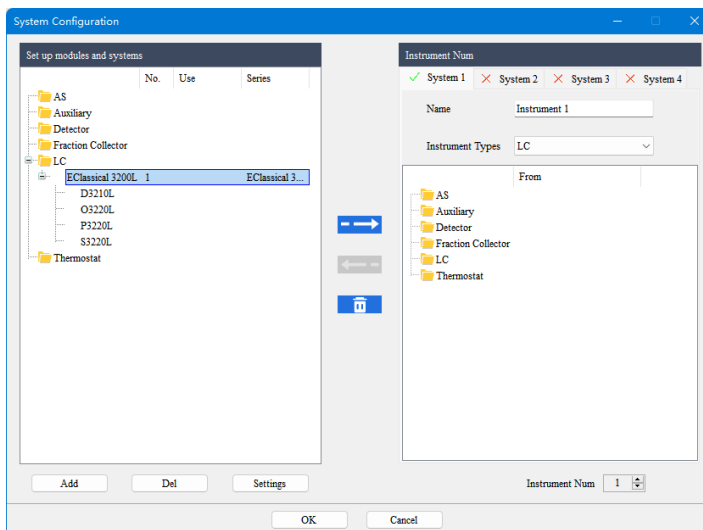
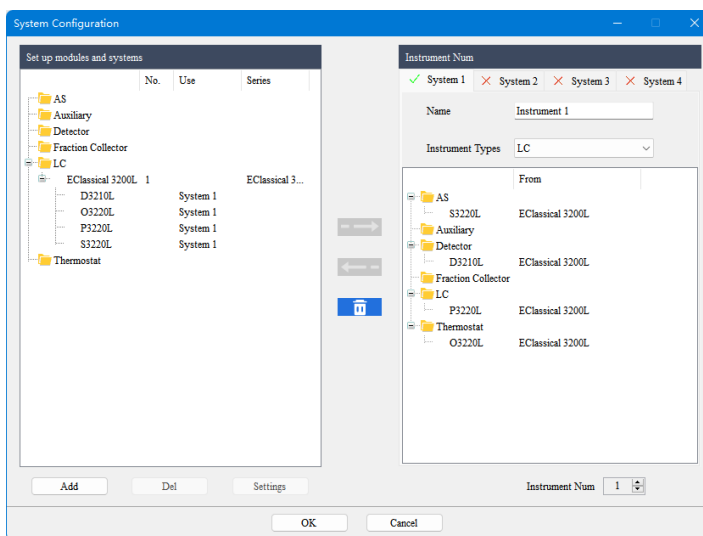

Fig. 3-11 Configuration Screen 05
Fig. 3-12 Configuration Screen 06
5) Select "EClassical 3200L" as shown in Fig. 3-11, double-click the right arrow, add the configuration module to the right as shown in Fig. 3-12, and finally click "Confirm" to enter the workstation to realize the pump control using the Kromstation workstation.